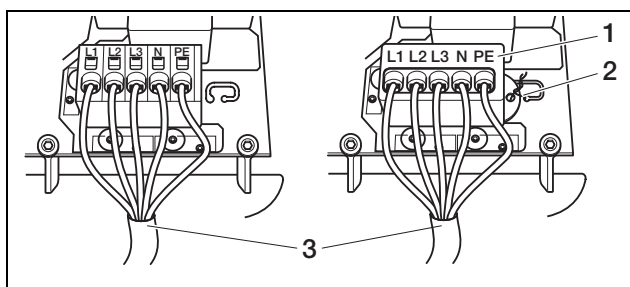

Fig. 13: Mains cable connected (left without sealing cap, right with sealing cap (illustration shows convert 8T/10T))
- Connect the conductors of the mains cable to the AC terminal in accordance with the labelling (figure 13).